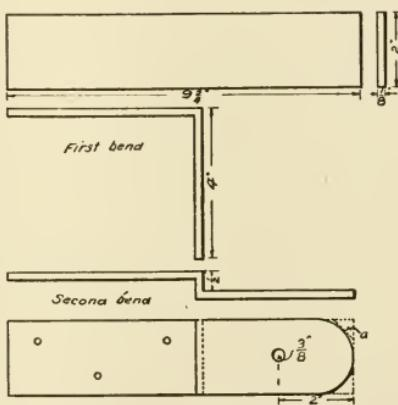

FIG. 206.—IRONS FOR WAGON JACK.
1. Take two pieces of iron of the dimensions given in Fig. 206, and lay off a distance of $4''$ on each.